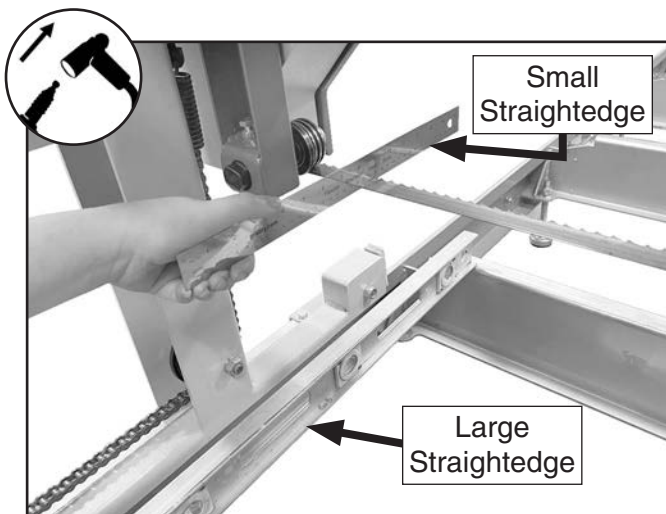

Figure 34. Straightedges positioned for measuring guide roller tilt.
3. Move carriage along track until blade is between (2) log bunks.
4. Under right guide roller, place large straightedge across log bunks, parallel with track (see **Figure 34**).
5. Place small straightedge across blade near right guide roller, perpendicular to log bunks (see **Figure 34**).